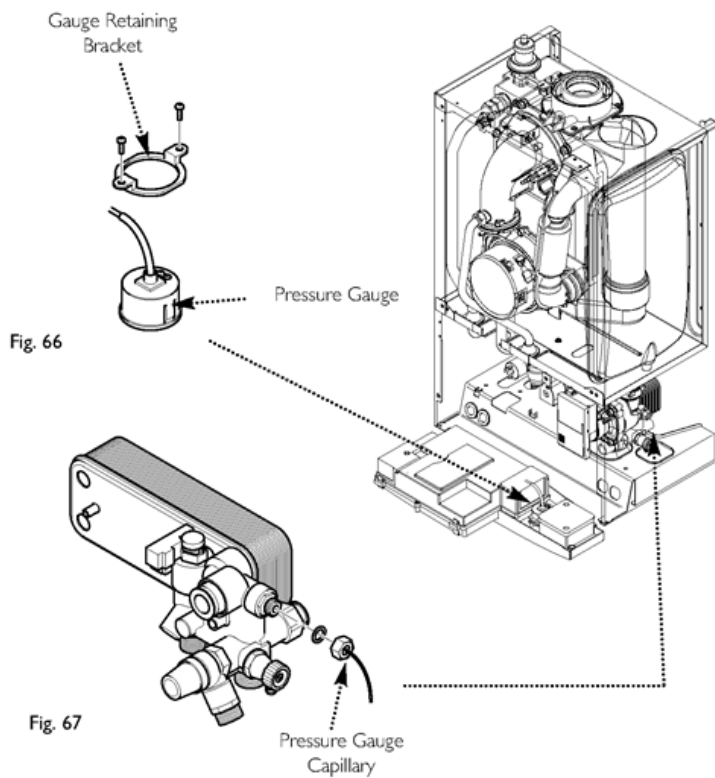

Fig. 66 & Fig. 67
13.15 Pressure Gauge (Figs. 66 & 67)